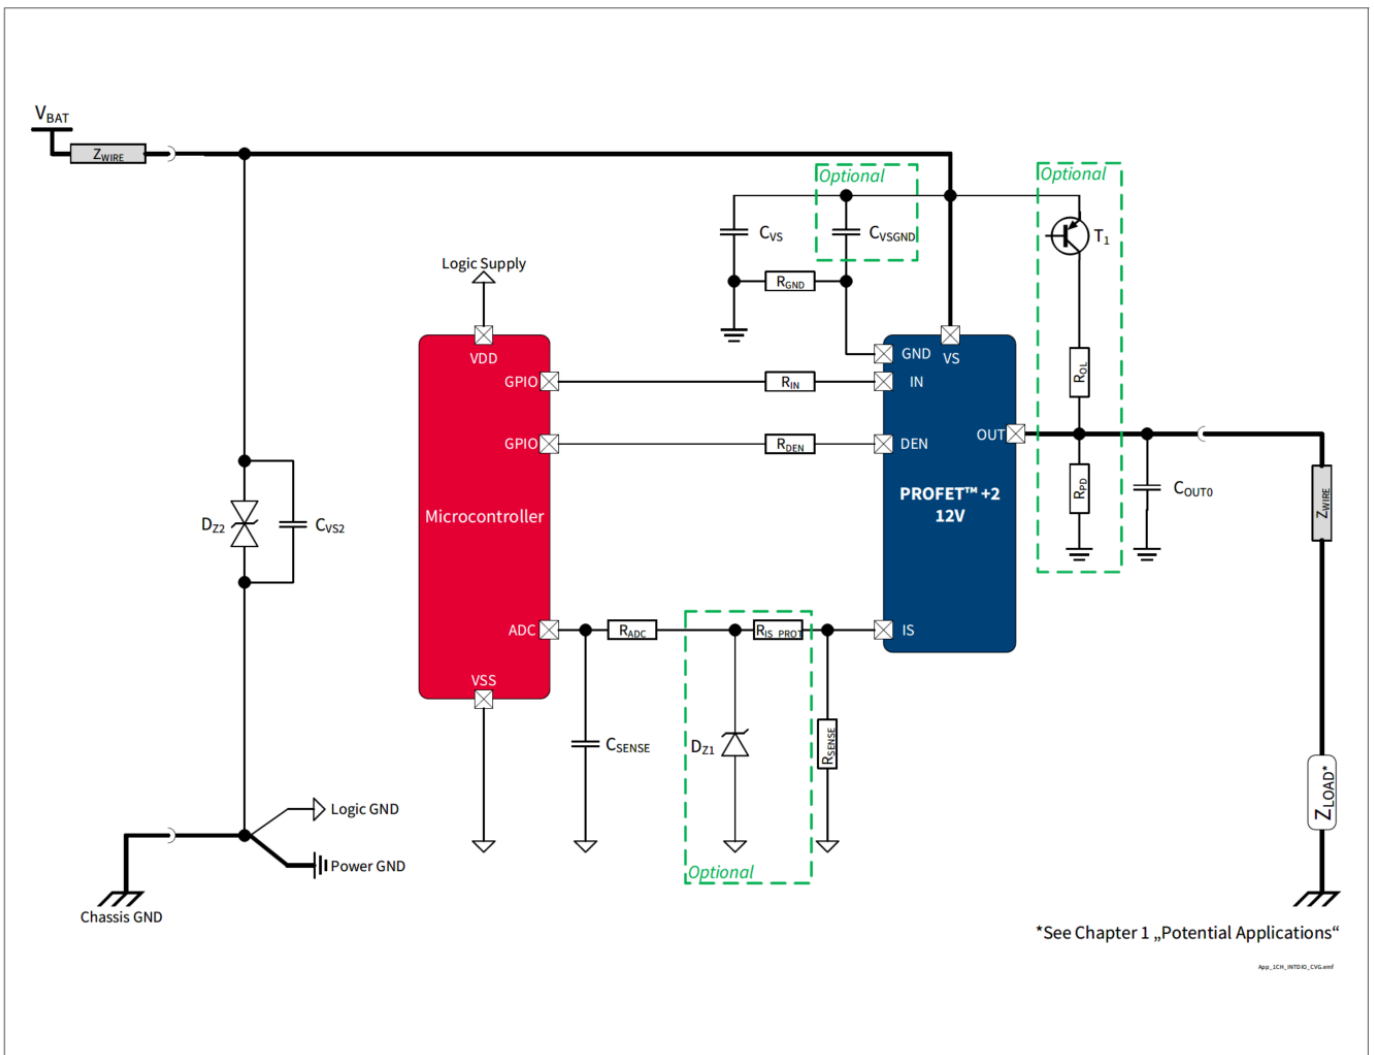

Figure 37 BTS7004-1EPZ Application Diagram
1.10 , 2020-12-14	Typo fixed (PROFET™+2 → PROFET™ +2) Figure 1, Figure 16, Figure 17, Figure 18, Figure 20, Figure 21, Figure 22, Figure 25, Figure 29, Figure 30, Figure 34, Figure 37 updated Chapter 1, Chapter 6.1, Chapter 6.1.3, Chapter 6.1.4, Chapter 8.2, Chapter 9.2.2 updated Chapter 8.4.1 updated (typo fixed) P_7.4.5.1, P_7.4.5.2, P_7.4.5.3, P_7.4.5.4, P_7.4.5.6, P_7.4.5.7 updated (added in Note or Test Condition: See Figure 15) P_8.6.4.1 updated (added in Note or Test Condition: See Figure 26) P_8.6.4.2 updated (added in Note or Test Condition: See Figure 27) P_9.6.0.6 updated (Parameter: SENSE Operative Range for k_{ILIS} Operation ($V_S - V_{IS}$) → Saturation Voltage in k_{ILIS} Operation ($V_S - V_{IS}$) P_9.6.0.7 updated (Parameter: SENSE Operative Range for Open Load at OFF Diagnosis ($V_S - V_{IS}$) → Saturation Voltage in Open Load at OFF Diagnosis ($V_S - V_{IS}$) P_9.6.0.8 updated (Parameter: SENSE Operative Range for Fault Diagnosis ($V_S - V_{IS}$) → Saturation Voltage in Fault Diagnosis ($V_S - V_{IS}$) P_9.6.0.20 updated (Parameter: SENSE Operative Range for Fault Diagnosis ($V_S - V_{IS}$) → Saturation Voltage in Fault Diagnosis ($V_S - V_{IS}$)